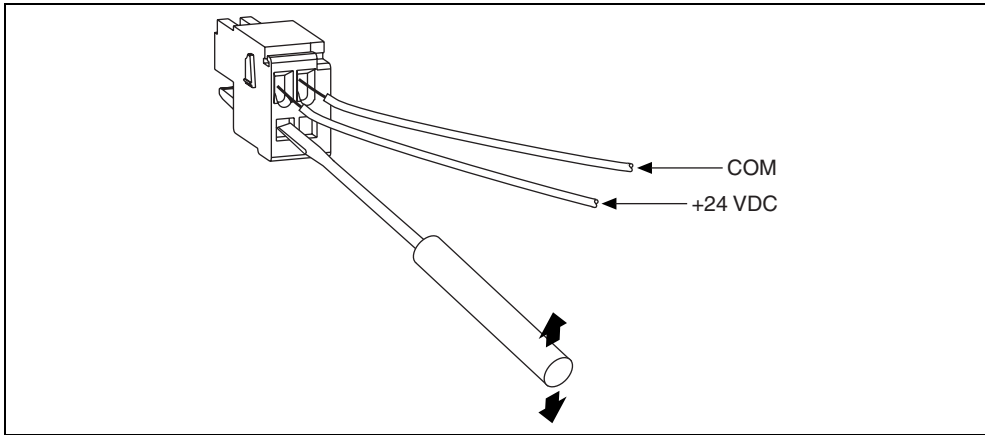

Figure 3. Power Two-Position Header Wiring Diagram
2. Wire the voltage output of the 24 VDC $\pm 20\%$ / -15% (IEC 1311) power supply to the main voltage input on the two-position connector as shown in Figure 3. Insert a small flathead screwdriver into the square opening. Using the screwdriver as a lever to open the clamp, insert the wire into the spring terminal opening. Remove the screwdriver to securely clamp the wire.
3. Wire the common signal (ground) output of the power supply to the COM signal input on the two-position connector, shown in Figure 3, using the same technique described in step 2.